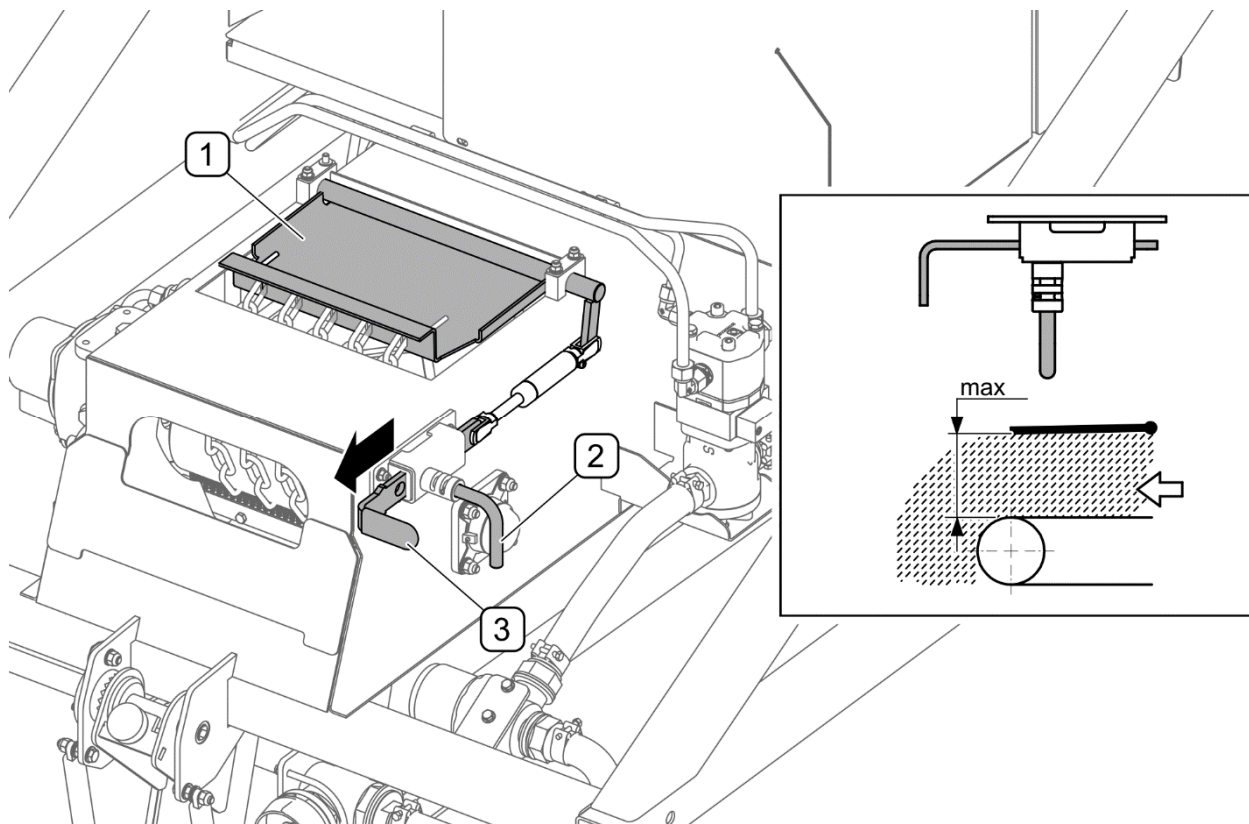

FIG. 4.36 **Setting the belt conveyor barrier for unloading**
- set belt conveyor barrier to maximally open position (FIG. 4.36),
(1) - barrier; (2) - locking pin; (3) - slide;
To set the barrier (1) for unloading, (FIG. 4.36) turn and pull pin (2) and raise the barrier by pulling the slide (3). The barrier is set to maximally open position (FIG. 4.36) only when material is being unloaded from the tank.